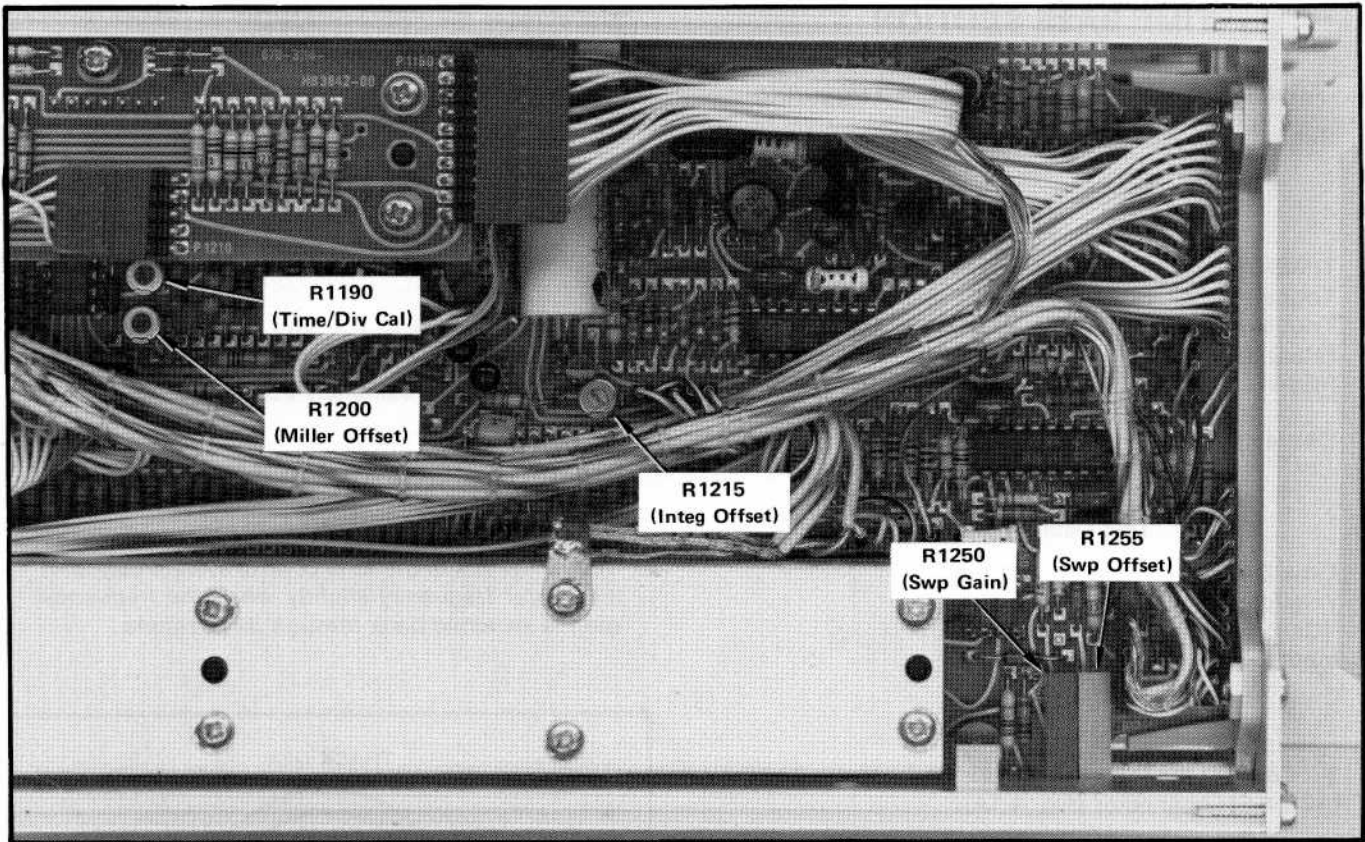

Fig. 4-2. Location of adjustments on the Sweep board.
c. Adjust the Swp Gain with R1250 (Fig. 4-2) on the sweep board, for a 20 volt ( $\pm 10$  V) sweep ramp (Fig. 4-1B). Adjust R1255 (Fig. 4-2) to center the ramp about 0 volts.
j. Position the crt beam at the center line of the graticule with Integrator Offset Adjust R1215 (Fig. 4-2). Replace transistor Q1210.
s. Adjust the Time/Div Cal R1190 (Fig. 4-2) for 1 marker/division.
v. Adjust Miller Offset R1200 (Fig. 4-2) for 1 marker/division.